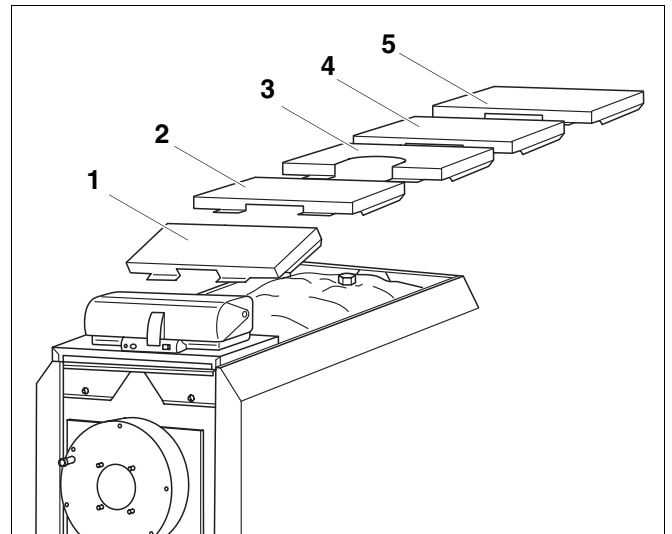

Fig. 23 Top cover sections
- Locate the boiler top cover sections Fig. 23 with the edges facing forward loosely onto the left and right side walls.
The third top cover section provides a cut-out (Fig. 23, **Item. 3**) for the low water indicator. Cover the cut-out with a cover plate.
Table 5 Dimensions of boiler top cover sections from Fig. 23, Item. 1 to 5 (all dimensions in inches)